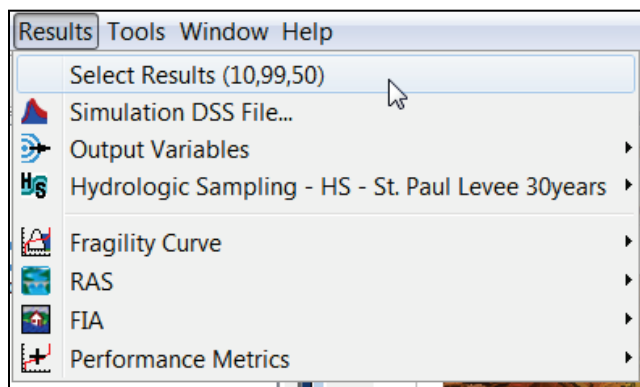

Figure 21.8 HEC-WAT Main Window - Results Menu - FRA
From the HEC-WAT **Results** menu, the user can access results from the different software applications and results from the FRA specific plug-ins that have been defined in an FRA simulation. From the HEC-WAT main window (Figure 21.1), from the **Results** menu (Figure 21.8), the user will point to a software application or a specific FRA plug-in from which the user wants to view results.
If the **Save Model Folders** option (Section 21.1.1) has been selected then results are available, and in an FRA compute that means all time series results from model alternatives that ran during the simulation. To provide meaningful results, the user can choose which individual event results to view. From the HEC-WAT main window (Figure 21.1.), from the **Results** menu (Figure 21.8), click **Select Results**, the **Select Event Results** dialog box will open (Figure 21.9). The user can select by realization, life cycle, and event; with that selection define any of the FRA specific results will default to the selection.
*simulation.dss* file (e.g., random numbers; output variables, frequency curves, etc.). For Version 1.0 not all of the FRA generated results are available from the HEC-WAT framework. From the HEC-WAT main window (Figure 2.1), from the **Results** menu (Figure 21.8), click **Simulation DSS File**, a HEC-DSSVue window will open (Figure 21.10), with the DSS file of the active simulation displayed. Using the HEC-DSSVue interface, the user can view and create results, Appendix K provides further details on using the HEC-DSSVue software. Before opening the simulation DSS file, from the **Results** menu (Figure 21.8), a user should access model results stored in the simulation DSS file from the **Output Variables** menu item (Section 21.5.3).
There are three options for visualizing scalar results (output variables) – **Histogram Viewer**, **Variable Viewer**, and **Frequency Viewer**. From the HEC-WAT main window (Figure 21.1), from the **Results** menu (Figure 21.8), point to **Output Variables**, click **Frequency Viewer**, the **Frequency Viewer** will open (Figure 21.11).
The sampling of levee failure trigger elevations from fragility curves is accomplished through the **Fragility Curve Sampler** with the results being an evaluation of the full range of levee failure possibilities for each pre-defined location in the entire system. For further details on the fragility curve sampling available in HEC-WAT, refer to Chapter 17 of this User's Manual. **Note:** results from the **Fragility Curve** menu item (Figure 21.8) will only be available if the user chooses to save all model files. Output variables (Chapter 16) can also be used to save the sampled failure elevation.